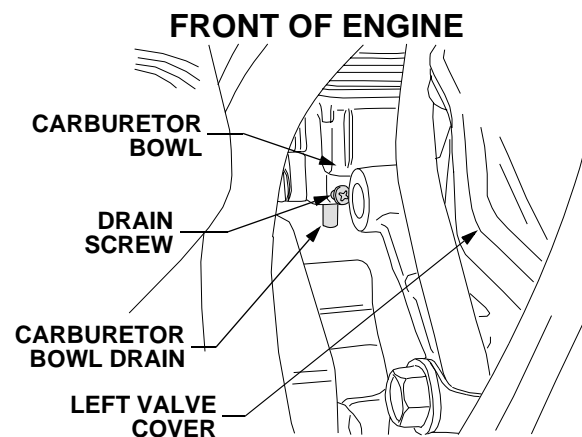

Figure 48
- Place a small container or rag beneath the carburetor bowl drain and loosen the drain screw to completely drain the fuel from the carburetor. See Figure 48.